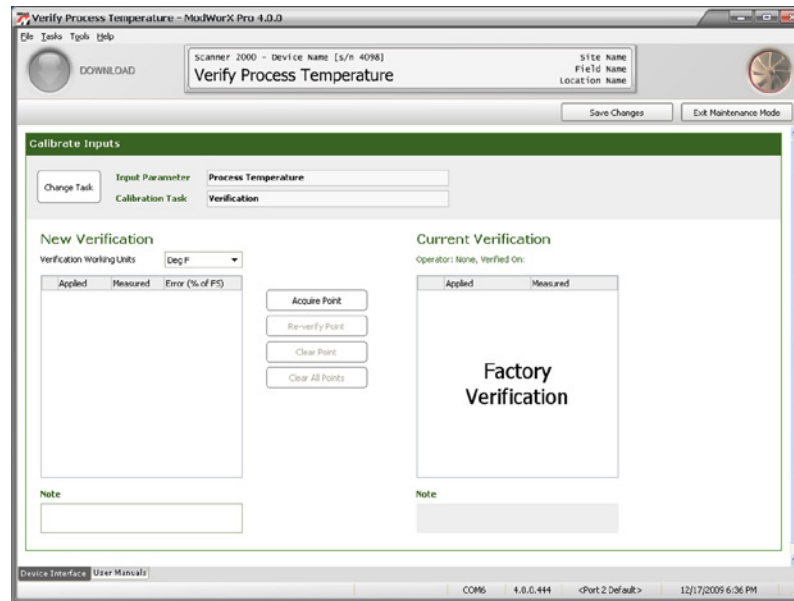
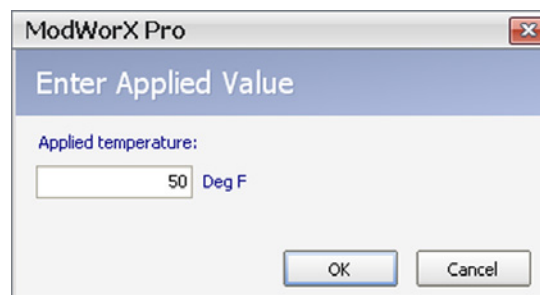

Figure 8.18
Figure 8.19
3. The Verify Process Temperature screen will appear, and the input parameter and calibration task selections you made will appear at the top of the screen (Figure 8.18).
5. Apply a known temperature to the calibration test device (for example, 50 degrees F) and click **Acquire Point** (Figure 8.18). An Enter Applied Value dialog will appear (Figure 8.19).